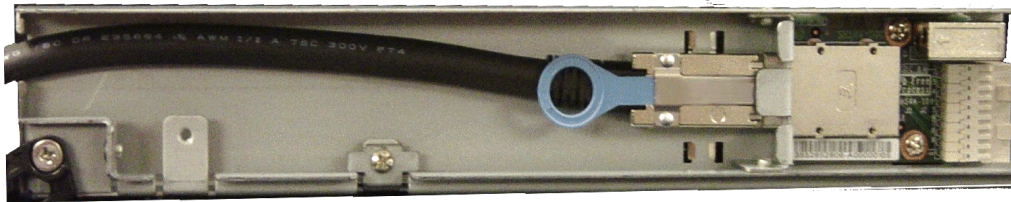

Figure 5-31: ENC Cable Holder
1. Install the ENC cable in the high-density expansion unit cable holder, as shown in Figure 5-31.